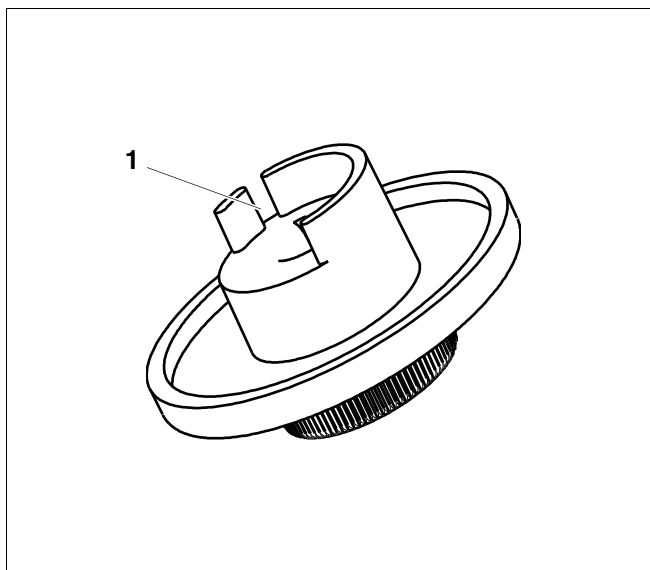

Fig. 4 Rotary selector
- Break off end stop cams (→ Fig. 4, [1]).